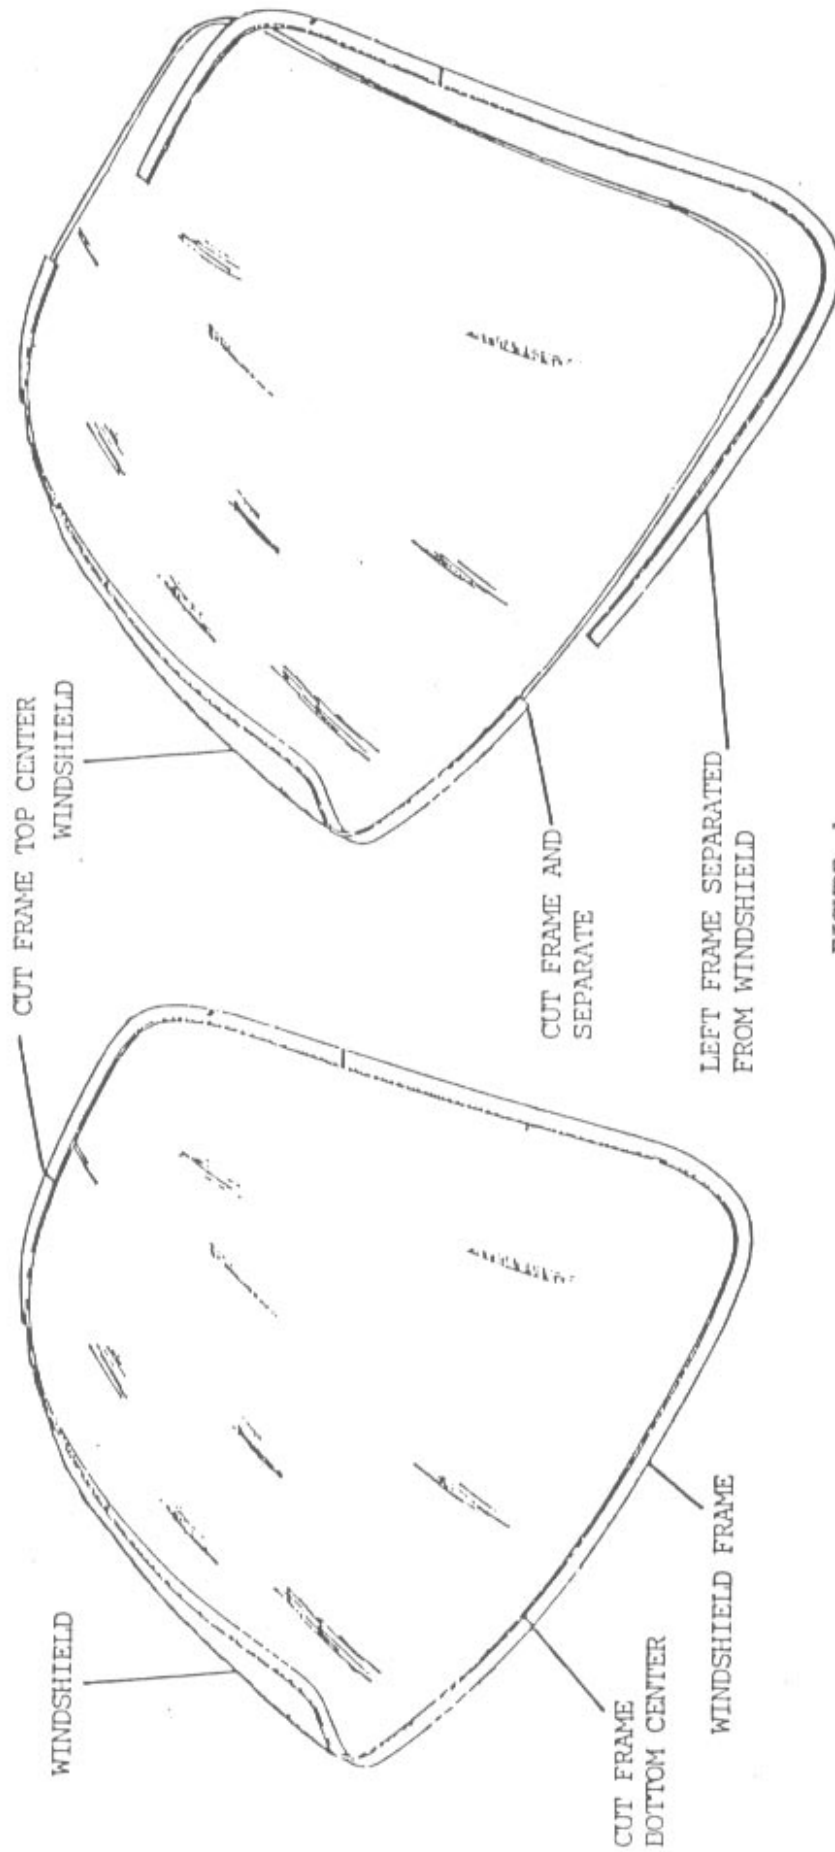
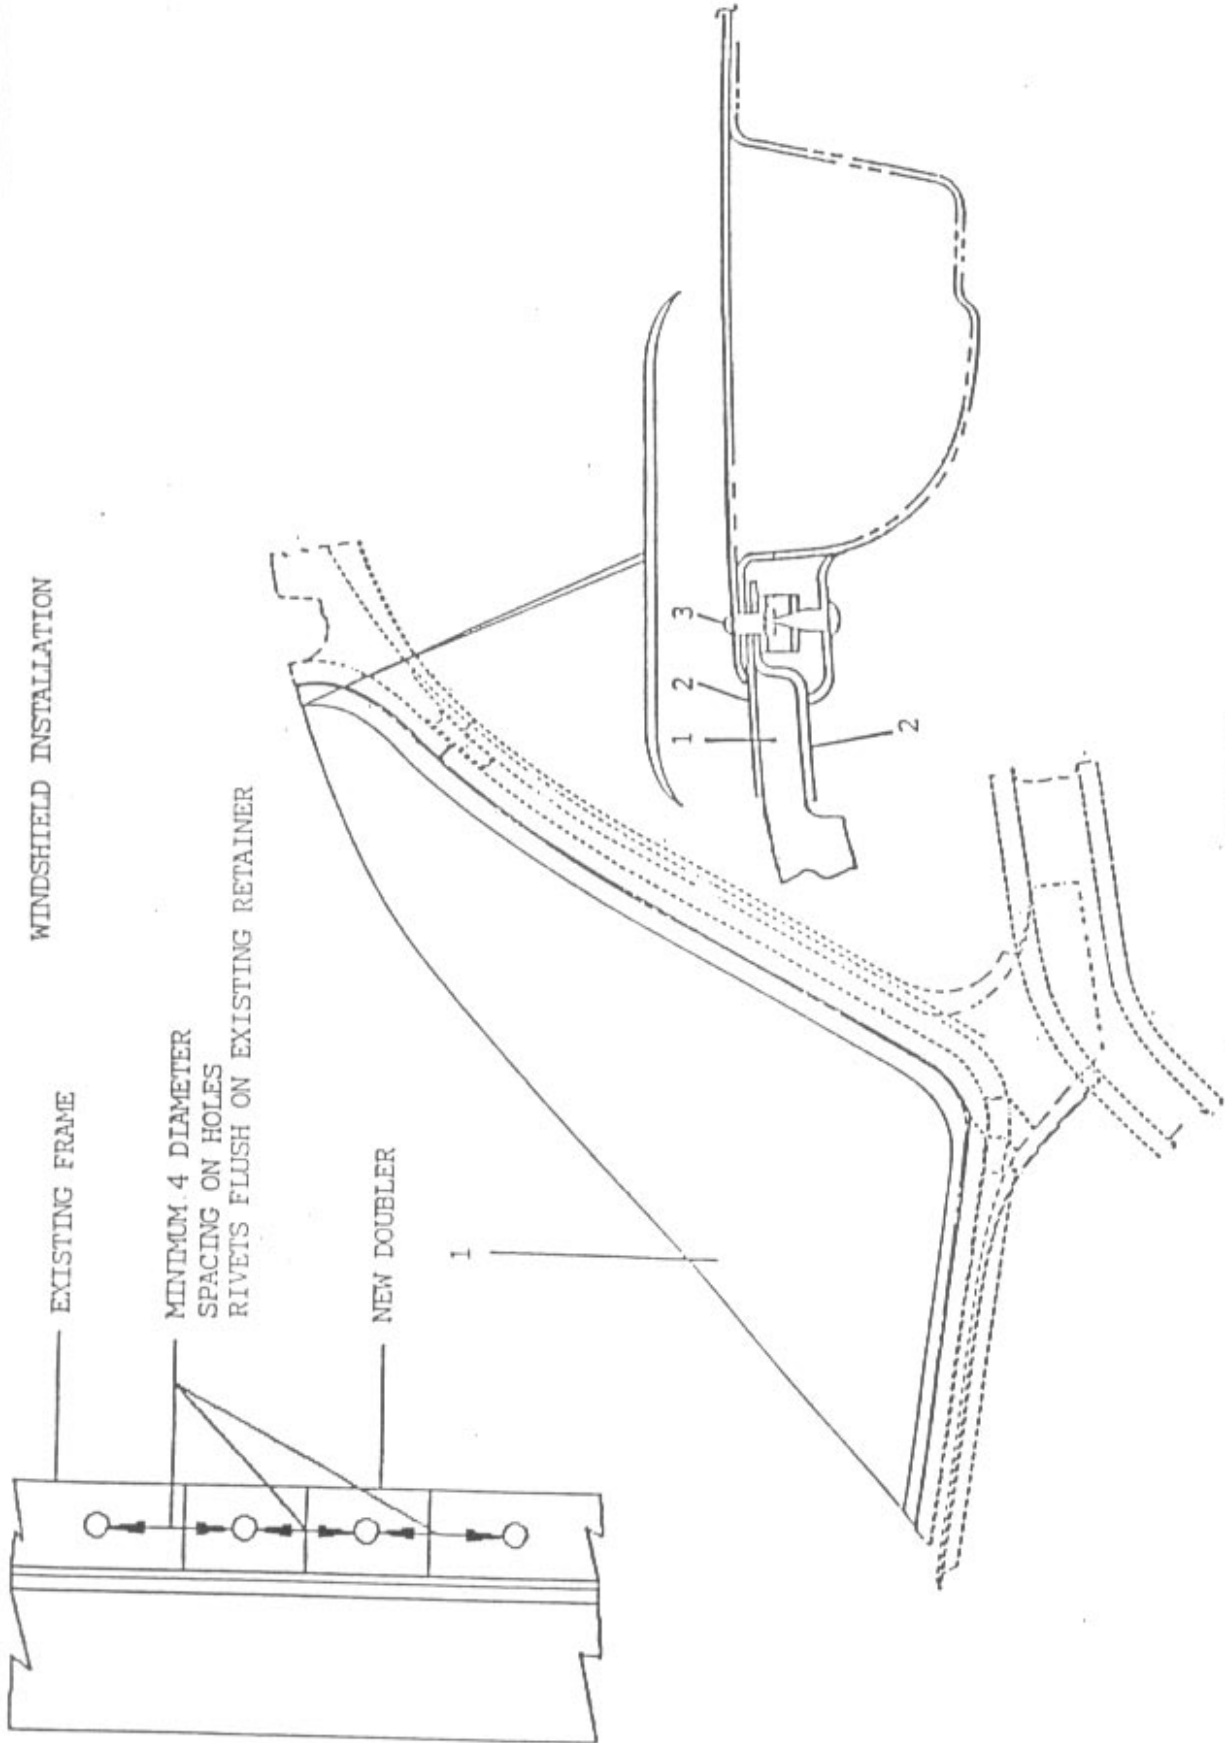

FIGURE 1
FIGURE 2
- 2A. After the windshield has been removed from the aircraft carefully cut the center of the frame at both the top and bottom. This will allow the frame to be removed from the windshield as a right and left half. Use a hack saw to make these cuts. See figure 1. When cutting, allow sufficient room to permit 4 diameters clearance between both the doubler rivet holes and the existing fasteners. See figure 2 & instruction 7.
8. After curing, remove the windshield and apply sealant as recommended by the Beechcraft service manual. The windshield and frame assembly may now be reinstalled on the airframe and the installation completed using the Beechcraft recommended installation instructions in the Beechcraft service manual. See figure 2.